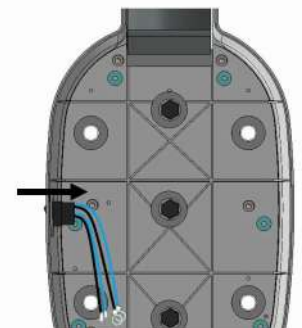

Figure 97
- Fix back the old Switch to the rear cover as shown in Figure 97 .